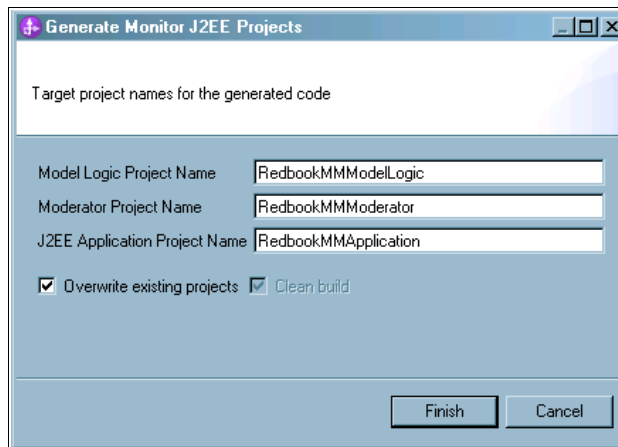

Figure 8-79 Generate projects, part 1 of 2
4. Click **Finish**. See Figure 8-79.